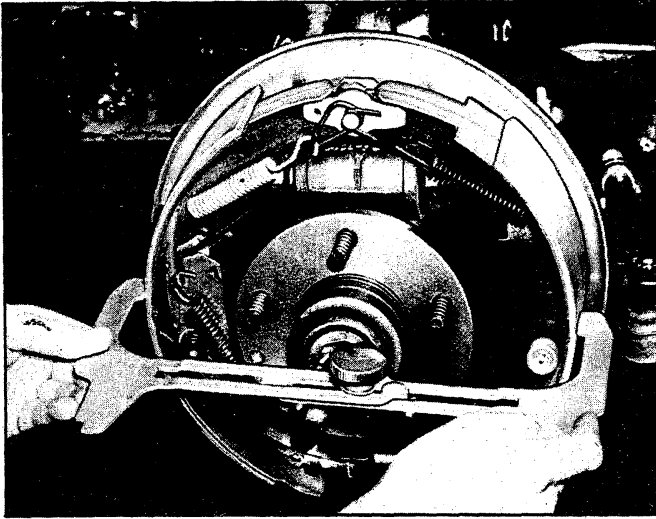

Fig. 17—Checking Brake Shoe Lining Clearance.
- b. Turn the tool to the opposite side and fit over the brake shoes by turning the star wheel until the gauge just slides over the linings (fig. 17).